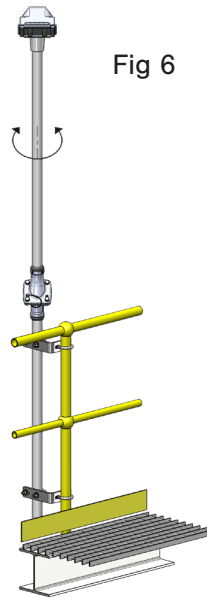

Fig 6
- If adjustment is required, loosen the top grub screws and rotate the pole top. (Fig 6)